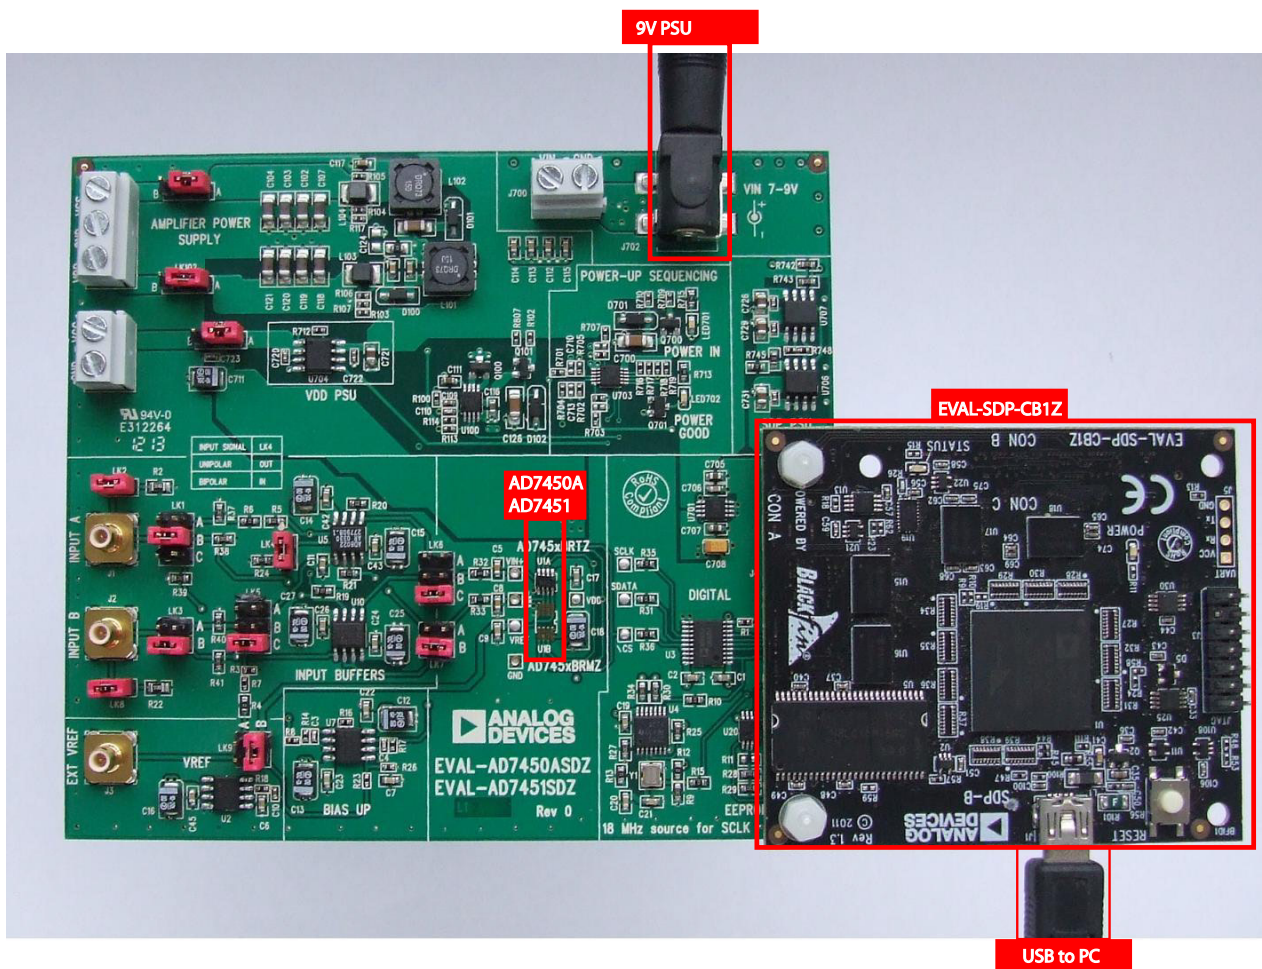

Figure 2. Hardware Configuration – Setting up the EVAL-AD7450A/51SDZ.
- (1) Install the AD7450A/51 Software from the enclosed CD. Ensure the EVAL-SDP-CB1Z board is **disconnected** from the USB port of the PC while installing the software. The PC must be restarted after the installation.
- (2) Connect the EVAL-SDP-CB1Z board to the EVAL-AD7450A/51SDZ board as shown in Figure 2.
- (3) Screwing the two boards together with the enclosed nylon screw-nut set will ensure the boards connect firmly together.
- (4) Connect the 9V power supply adapter included in the kit to connector J702 on the EVAL-AD7450A/51SDZ board.
- (5) Connect the EVAL-SDP-CB1Z board to the PC via the USB cable. For Windows XP you may need to search for the EVAL-SDP-CB1Z drivers. Choose to automatically search for the drivers for the EVAL-SDP-CB1Z board if prompted by the operating system.
- (6) Launch the EVAL-AD7450A/51SDZ software from the Analog Devices subfolder in the Programs menu.
The AD7450A/51 evaluation board connects to the (EVAL-SDP-CB1Z) System Demonstration Board. The EVAL-SDP-CB1Z Board is the controller board, which is the communication link between the PC and the main evaluation board. Figure 2 shows a photograph of the connections made between the AD7450A/51 daughter board and the EVAL-SDP-CB1Z board.